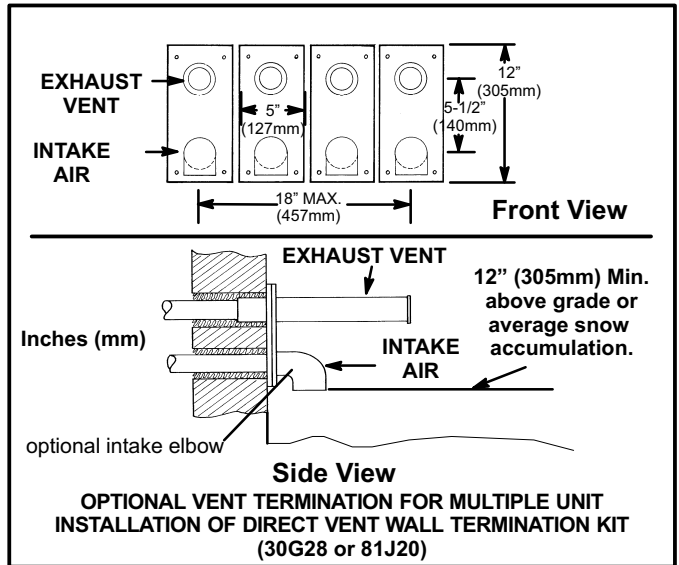

FIGURE 38
- A multiple furnace installation may use a group of up to four terminations assembled together horizontally, as shown in figure 38.